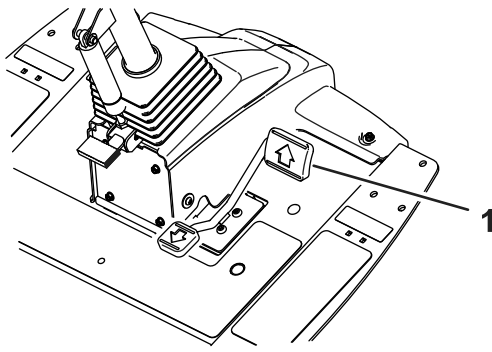
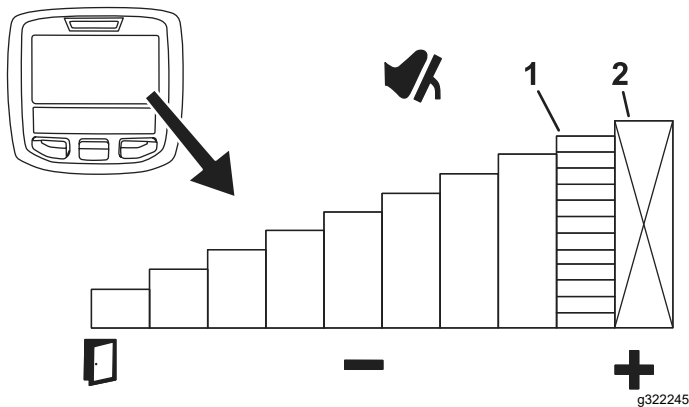

Figure 50
Figure 51
To temporarily set the maximum speed of the machine, press the traction pedal fully forward (Figure 50). You can set a separate speed for the mow range and transport range (Figure 51).
- To access this feature, select the InfoCenter middle button from the main screen (Figure 51).